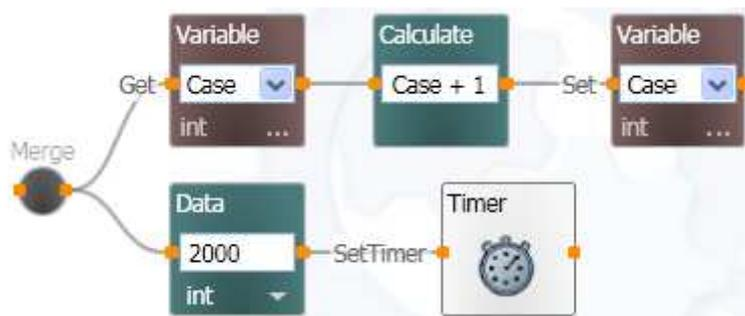

Figure 40. New iteration requisites
1. Copy the entire figure (Figure 40)